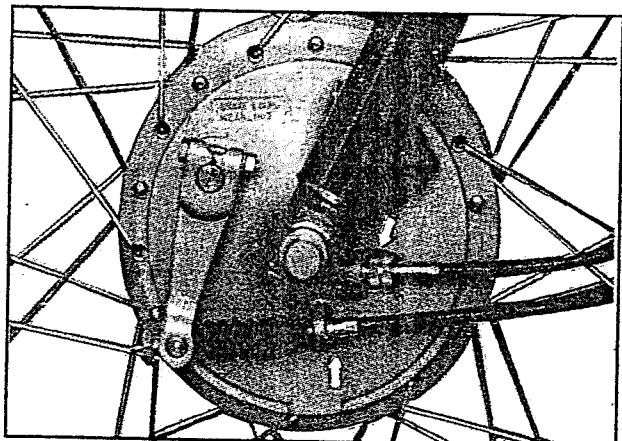

Fig 6.1
- Disconnect the speedometer and front brake cables (fig 6.1)